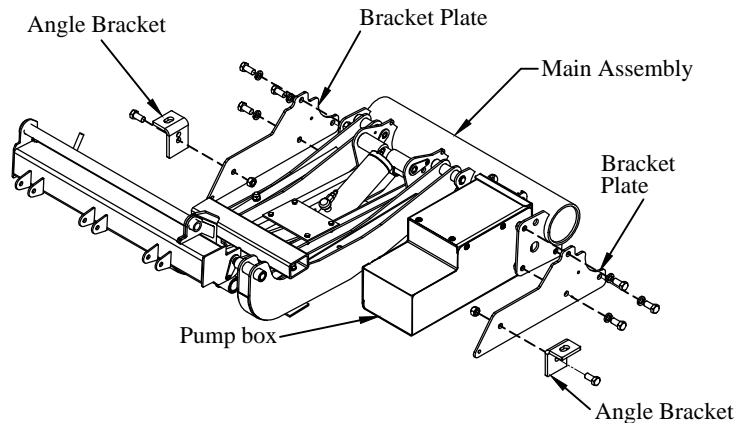

Figure 7: Bracket plate locations.
8. **Install** each bracket plate on the main assembly using three 5/8" x 1-1/4" bolts, lock washers, and nuts. The bolt head and lock washer should be on the outside (Figure 7).
9. **Attach** each angle bracket to a bracket plate using a 5/8" x 1-1/4" bolt, and lock nut. Use the bottom hole of the angle bracket (Figure 7).